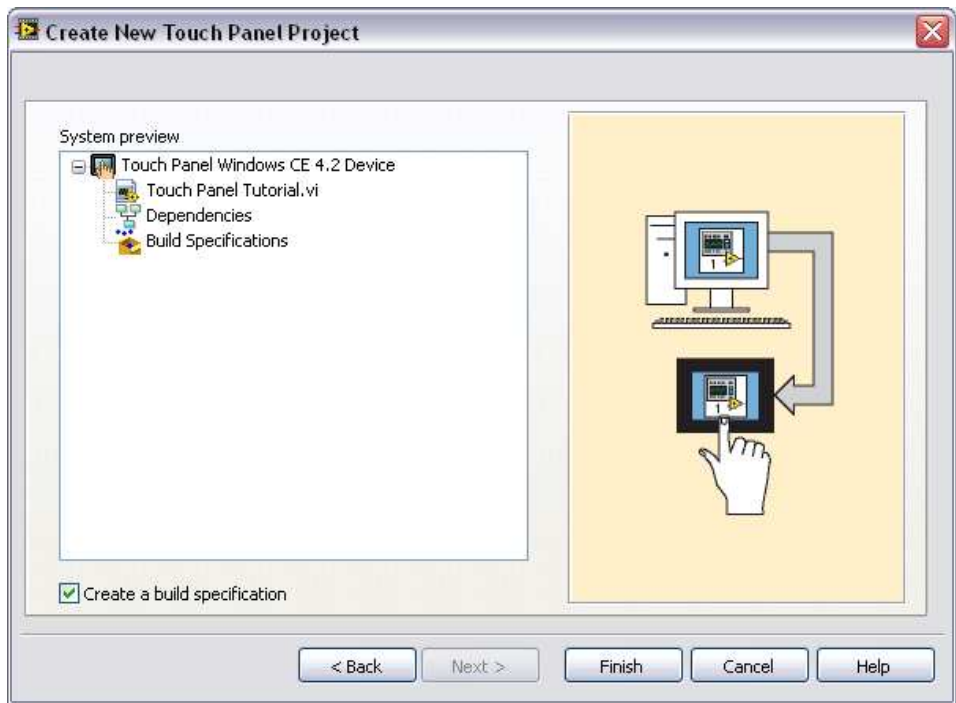

Figure 4. Previewing the Project
8. The **System preview** page, shown in Figure 4, shows a preview of the project the wizard creates when you click the **Finish** button. Notice the checkmark in the **Create a build specification** checkbox. This checkmark indicates you want to create a build specification immediately after you create the project. Refer to the Creating the Touch Panel Build Specification section for more information about creating build specifications.
9. Click the **Finish** button. Because the **Create a build specification** checkbox contains a checkmark as shown in Figure 4, the **Touch Panel Build Specification Properties** dialog box opens when you click the **Finish** button.